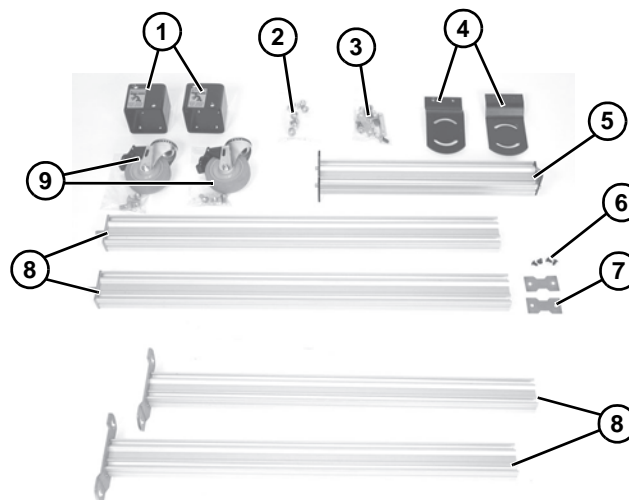
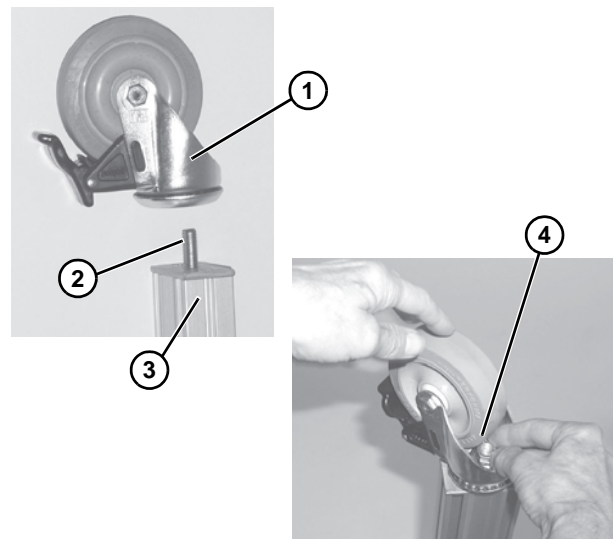
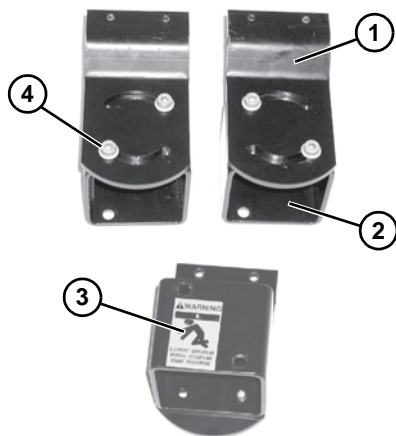

Figure 2
Figure 6
Figure 8
1. Typical components (Figure 2).
2. Open crossmember hardware pack (Figure 2, item 2).
Caster Kit (**Figure 2, item 9**) Components:
7. Open caster kit (**Figure 2, item 9**). Install caster (**Figure 6, item 1**) over bolt (**Figure 6, item 2**). Bolt is pre-assembled on stand leg (**Figure 6, item 3**). Secure caster with lock nut (**Figure 6, item 4**).
Pivot bracket (**Figure 8, item 1**) must be installed on side of leg support (**Figure 8, item 2**) opposite of warning label (**Figure 8, item 3**). When installed, round end of pivot bracket will be down and warning label will be upright, as shown.
Screws (**Figure 8, item 4**) for attaching pivot brackets (**Figure 8, item 1**) to support legs (**Figure 8, item 2**) must be installed in opposite set of holes on opposite support leg to properly attach pivot brackets to conveyor.
- Open fully adjustable stand hardware pack (**Figure 2, item 3**). Attach pivot bracket (**Figure 8, item 1**) to leg support (**Figure 8, item 2**) with two flange socket head screws (**Figure 8, item 4**). Do not tighten screws.
19. Tighten four flange socket head screws (**Figure 8, item 4**) to 24 ft-lb (33 N-m).